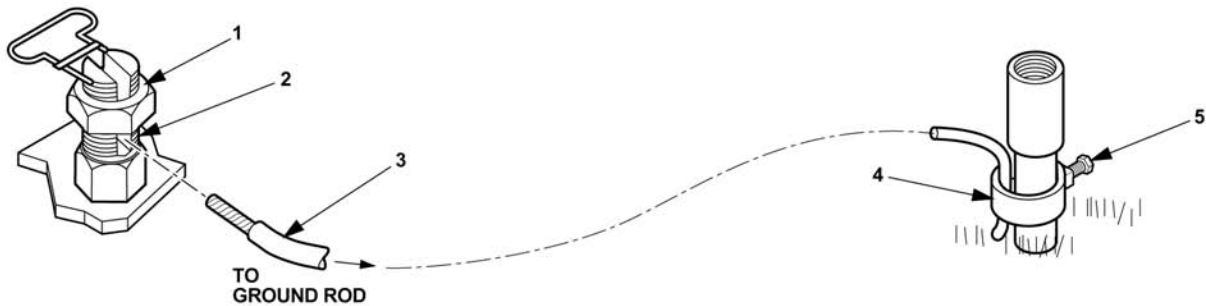

Figure 2-6. Ground Cable Connection.
- c. Connect ground rod coupling (10) to ground rod (7) and screw slide hammer rod (4) into coupling (10). Make sure that slide hammer rod (4) seats on ground rod (7).
- d. Drive ground rod into ground until coupling (10) is just above surface.
- e. Remove slide hammer assembly and install another section of ground rod (7).
- f. Install another coupling (10) and the slide hammer assembly. Drive ground rod down until new coupling is just above ground surface.
- h. Connect clamp (9) and ground cable (8) to ground rod (7) and tighten clamp screw.
- i. Connect ground cable (8) to trailer as follows.
- (1) Loosen nut (1), (Figure 2-6) from trailer ground stud (2).
- (2) Insert wire (3) through slot of ground terminal (2) and tighten nut (1).
- (3) Insert wire (3) to ground rod clamp (4) and tighten screw (5).